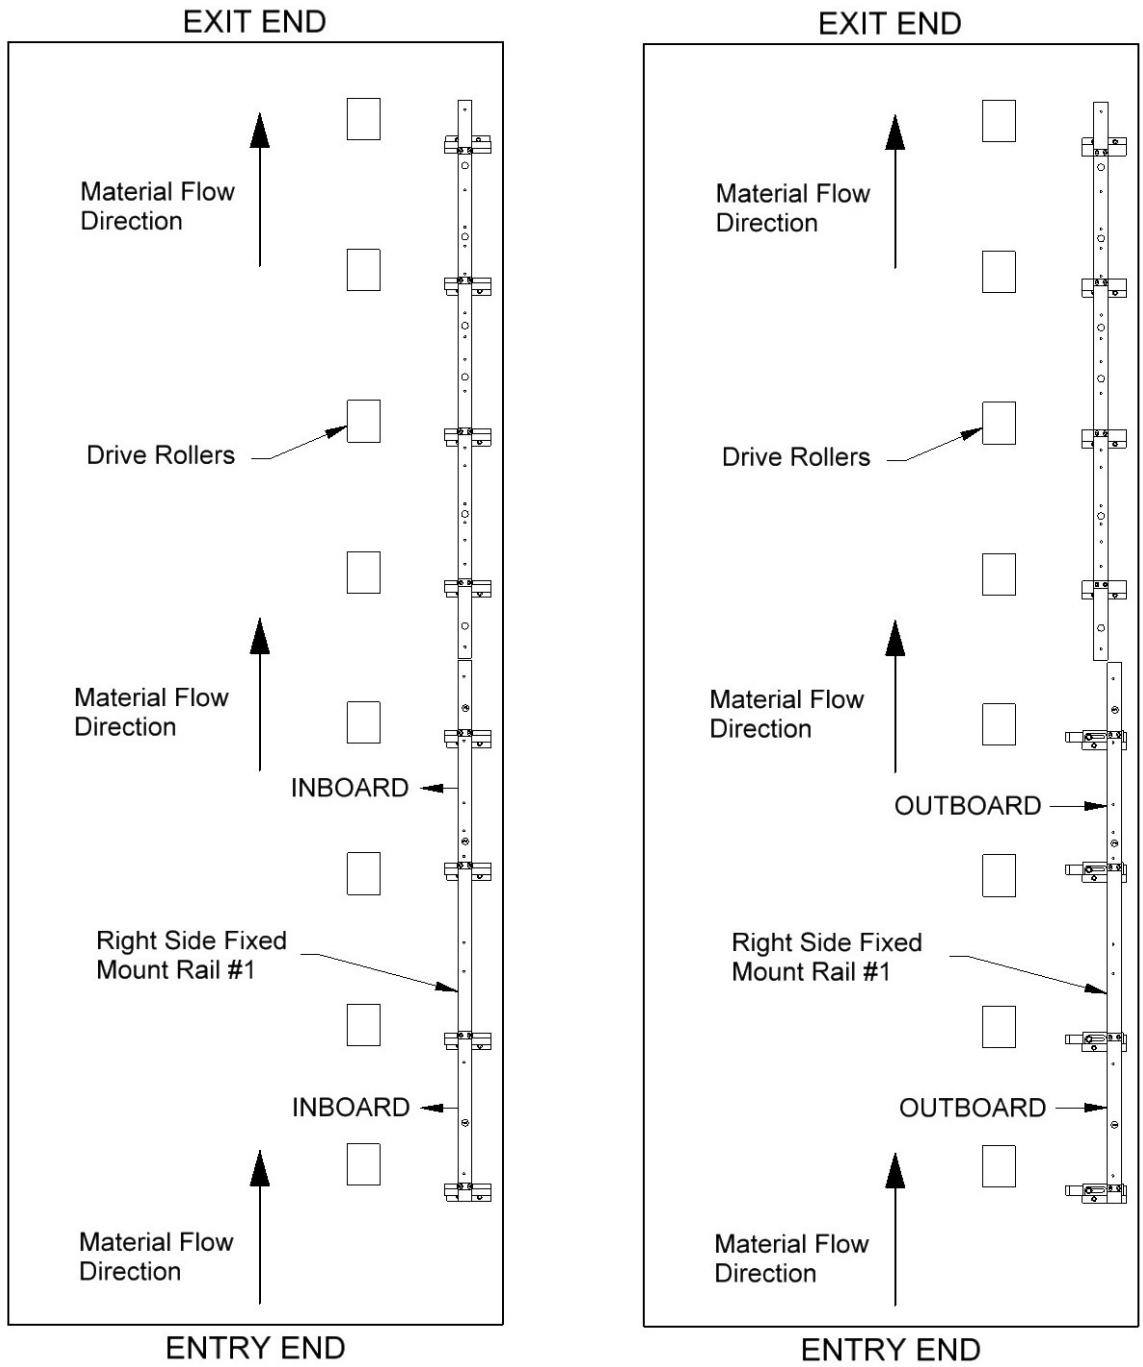

Figure 63: Inboard/Outboard Positions
4. Refer to the SSQ Slide Block chart (Figure 62) and find the profile that will be installed into the machine. It will show if the Right Side Fixed Mount Rail #1 needs to be in the Inboard position or Outboard position (Figure 63).